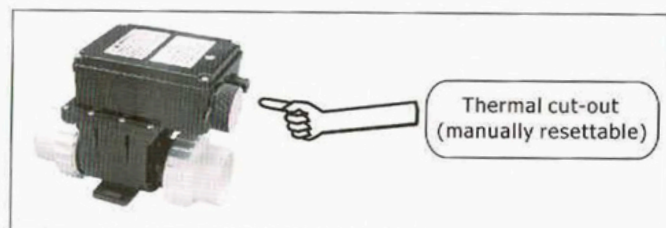

Fig. 6
- 4.3 Reset button is concealed inside the thermostat during normal working, if temperature exceed 60°C , reset button will flick out and cut off the power, the thermostat only return to work after trouble-shooting and unscrew the manual reset button cover and push the reset button to its original position.(Fig.6)